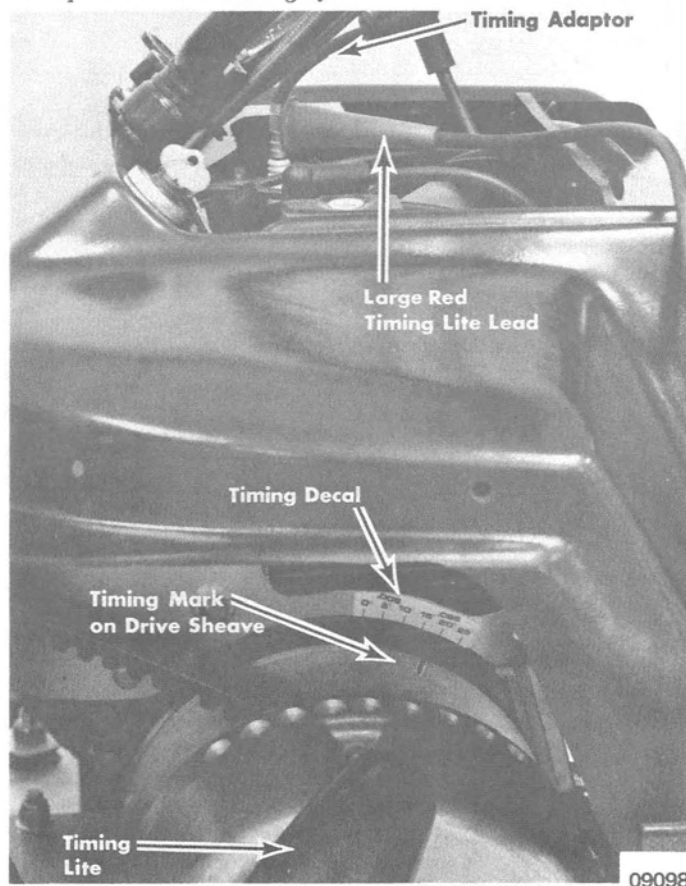

Figure 2. Checking Ignition Timing
- a. Insert timing adaptor (Figure 2) between No. 1 (rewind side) spark plug and No. 1 spark plug wire.
- b. Connect large red timing lite lead to timing adaptor. (Figure 2)
10. Aim timing lite at timing decal and timing mark on fixed face of drive sheave. (Figure 2)
11. With engine running at 2500 RPM, timing mark on drive sheave should be opposite 17° to 19° (BTDC) mark on timing decal. (Figure 2)